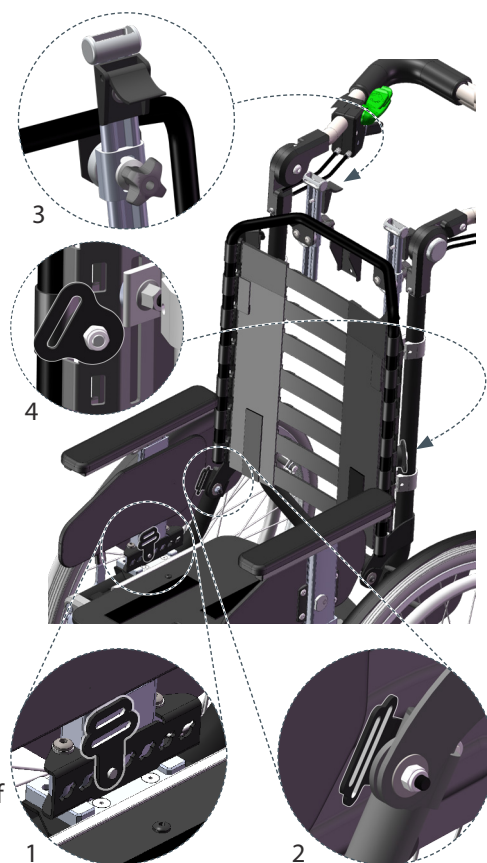

Figure 39. Belt and harness mounts
If there is a risk that the user can slide out of the wheelchair a positioning belt and harness can be used. HD Motion can be equipped with belt mounts at the thighs (1 in Figure 39) and hips (2), and mounts for harnesses (3 and 4).